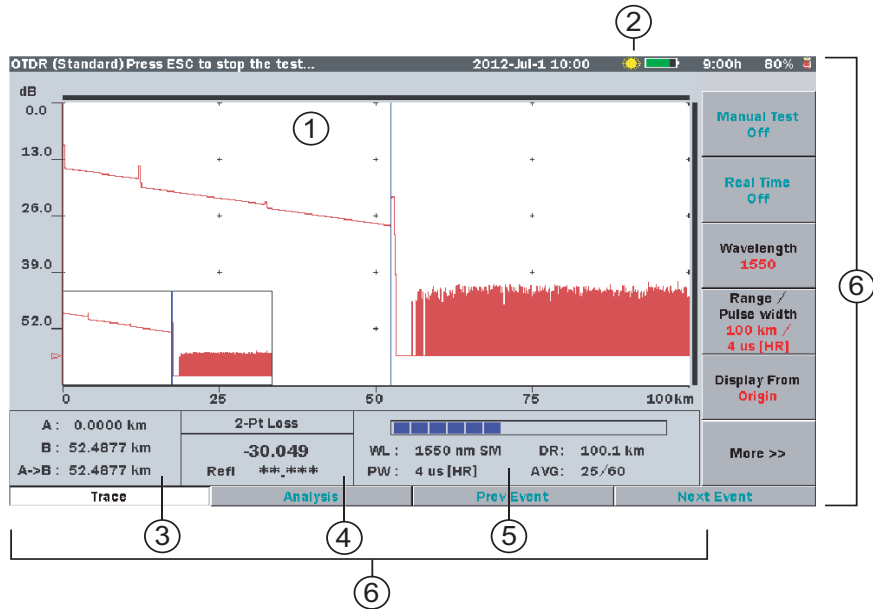

Figure 4-10: Trace Screen with Laser On Indicator
The flashing Laser On icon (see item 2 in Figure 4-10) appears whenever a laser is firing.
The Cursor Distance information (see item 3 in Figure 4-10) displays the following:
The Loss Mode, Measurement, and Reflectance area (see item 4 in Figure 4-10) displays the following: